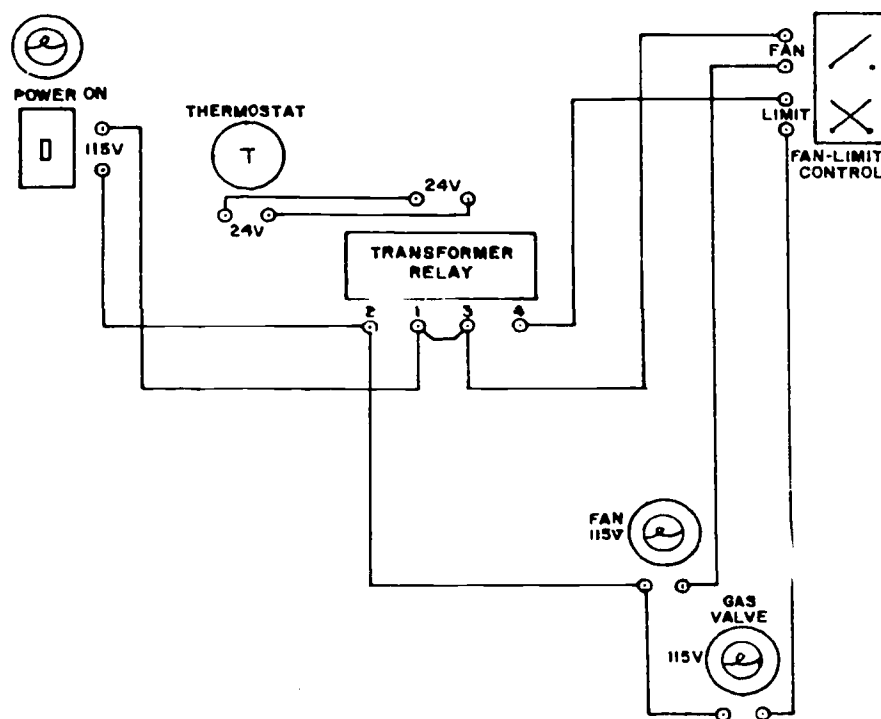

Figure 2. Warm-Air Furnace Line-Voltage Circuit
2. Wire the line voltage trainer using figure 2 as a guide.